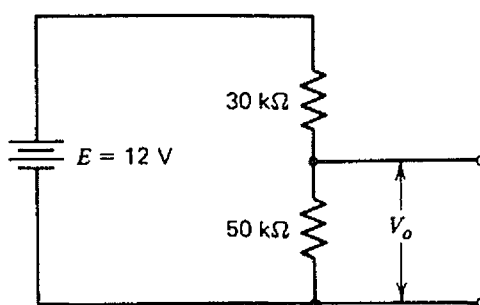

FIGURE 2-38 Circuit for Problem 2-13.
- 2-13** A voltage reading is to be taken across the $50\text{-k}\Omega$ resistor in the circuit of Fig. 2-38. A voltmeter with a sensitivity of $20 \text{ k}\Omega/\text{V}$ and a guaranteed accuracy of $\pm 2\%$ at full scale is to be used on its 10-V range. What is the minimum voltmeter reading that could be expected?